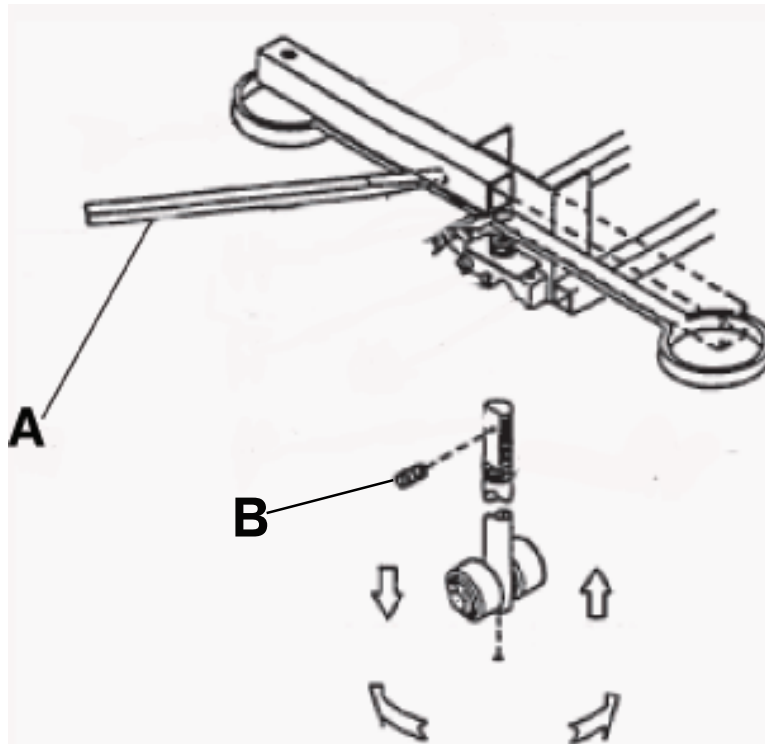

Figure 5 – Brake adjustment
1. Using a pry bar (A), compress the spring to relieve tension on the stud (Figure 5).
2. Using a 3/32" hex wrench, turn the set screw (B) one full turn counterclockwise to tighten the brake.
3. Using a 3/32" hex wrench, turn the set screw (B) one full turn clockwise to loosen the brake.